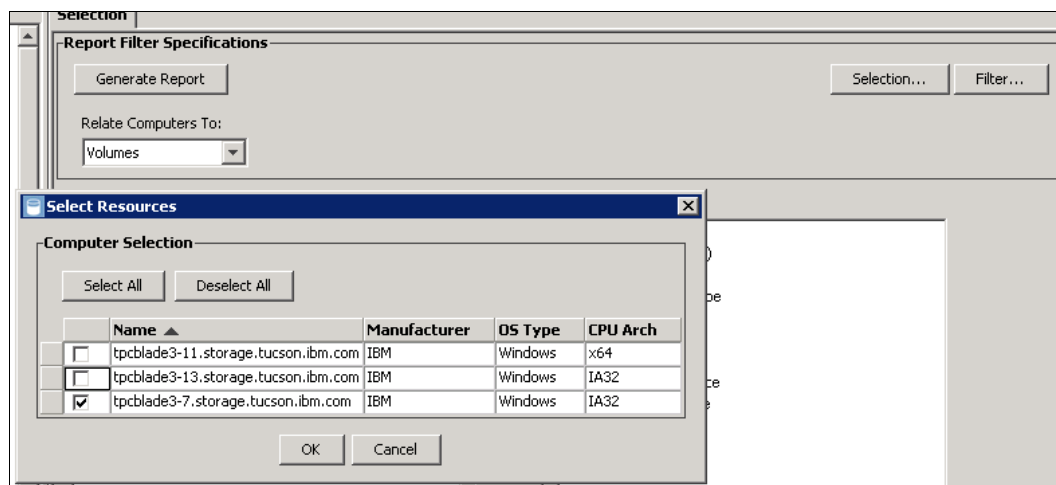

Figure 13-102 Selecting resources
3. In the Select Resources window (see Figure 13-102), select the particular available resources to be included in the report. In this example, we select the **tpcblade3-7** server. Then, click **OK**.